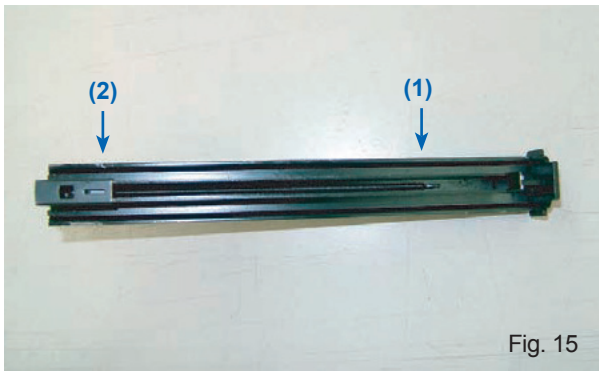

Fig. 15
7. Now one end of the spring is connected to the hook in the magazine cover slot (Fig. 15-(1)) and the other end goes around the tension roller and hooked on to the pusher (Fig. 15-(2)).